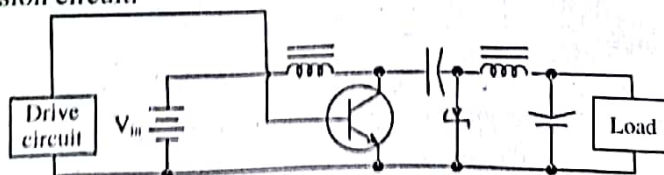

Figure 4.14
- 4) **Cuk" converter circuit:** The schematic figure 4.14 shown here is for a "Cuk" converter circuit, a type of DC-DC "switching" power conversion circuit.